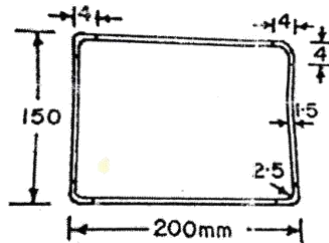

Figure 1
2. Find the allowable axial load for a column section shown in Figure1. Effective length of the column is 3.6 m. Take $f_y = 235 \text{ N/mm}^2$. [12M]